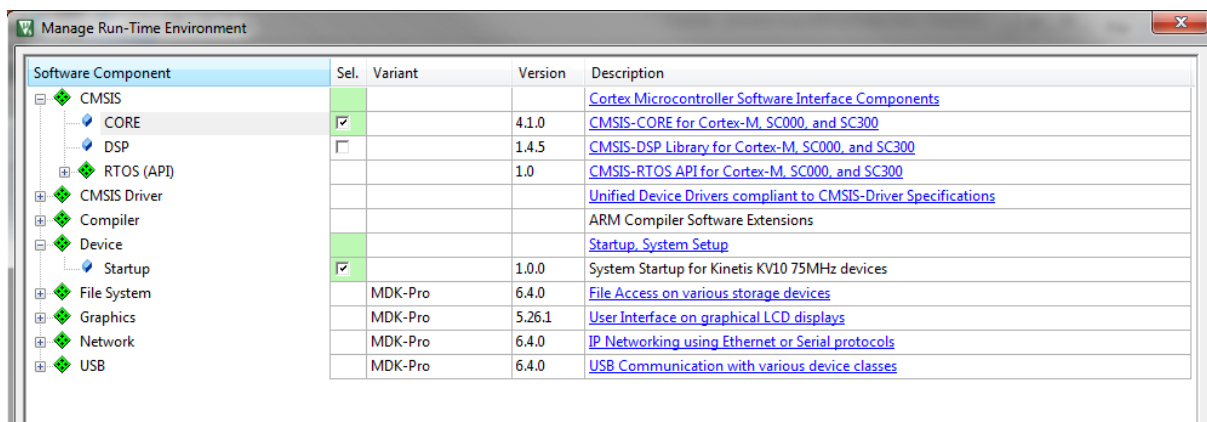

Figure 1-20. Manage Run-Time Environment dialog
8. In the next dialog, expand the Device node, and tick the box next to the Startup node. See Figure 1-20.